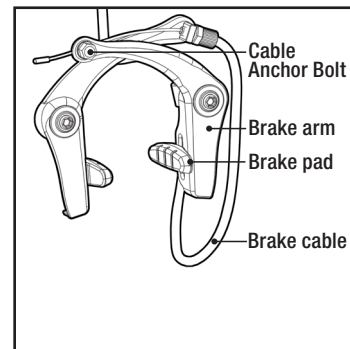

Figure 29
**⚠ WARNING:** When assembling or adjusting the brakes, make sure the cable anchor nut is tight. Failure to securely tighten the nut could result in brake failure and personal injury (see Figure 29).